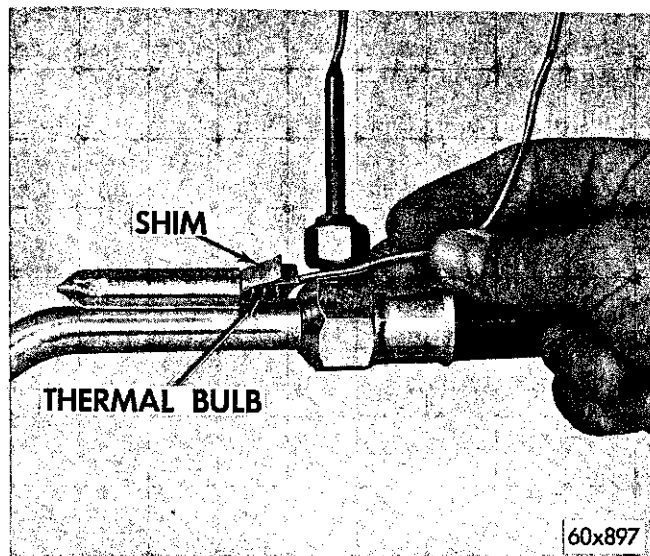

Fig. 45—Thermal Bulb Installed (Typical)
(1) Remove the equalizer line from the evaporator suction line fitting.
(2) Disconnect the valve from the $\frac{3}{8}$ inch inlet line and from the $\frac{1}{2}$ inch outlet line. Use two wrenches to loosen each of these connections.
(3) Remove the grommet retainer and the rubber grommet from the evaporator engine-side housing. Carefully pull the thermal bulb (Fig. 45) and the thermal bulb wedging shims from the well located inside the evaporator housing.